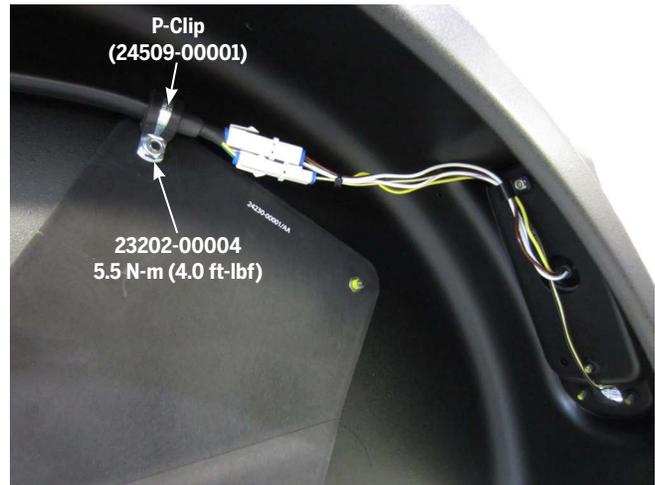

Figure 172: Tail Light Harness to Lights
6. Using a 10 mm socket wrench, remove the lock nut and P-clip shown in **Figure 172**.
7. Disconnect the wire harness from the tail lights. See **Figure 172**.
2. Connect the Tail Light Harness to the tail lights. See **Figure 172**.
3. Install a P-clip around the Tail Light Harness and slide it onto the back of the upper Fender Bracket fastener, as shown in **Figure 172**.